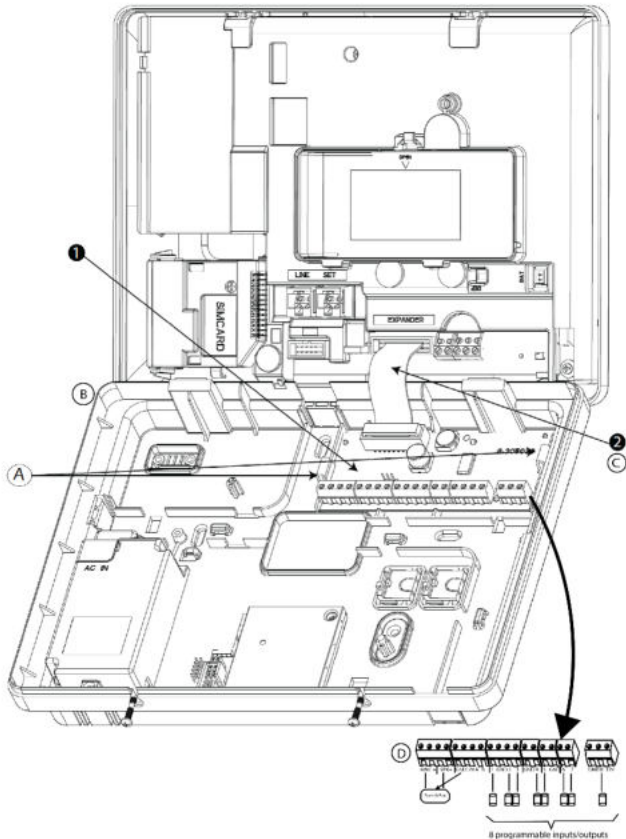

Figure 2.1 – ioXpander-8 Mounting and Wiring
To mount the expander module as shown in Figure 2.1, complete the following steps:
1. Press downward on the expander module between the two clips to insert the module into the back panel. See Figure 2.1 ioXpander-8 Mounting and Wiring (A) to identify the clips.